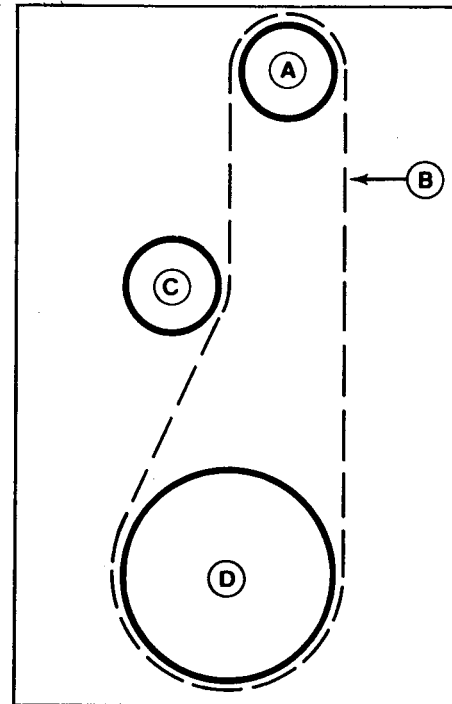

Figure 12. Belt Pattern (as viewed from front of snowthrower)
5. Reverse the procedure to install the belts. Be sure there are no twists and the belts are properly seated in the grooves. The pattern for both belts is shown in Figure 12.